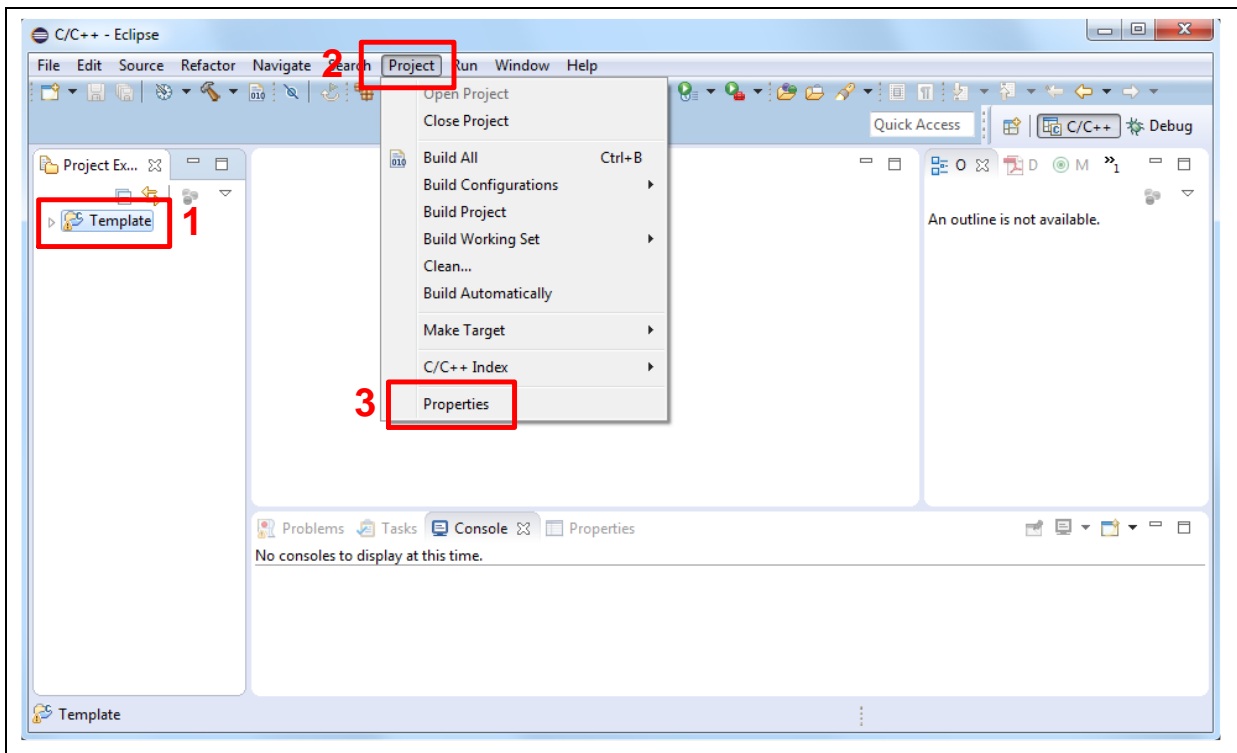
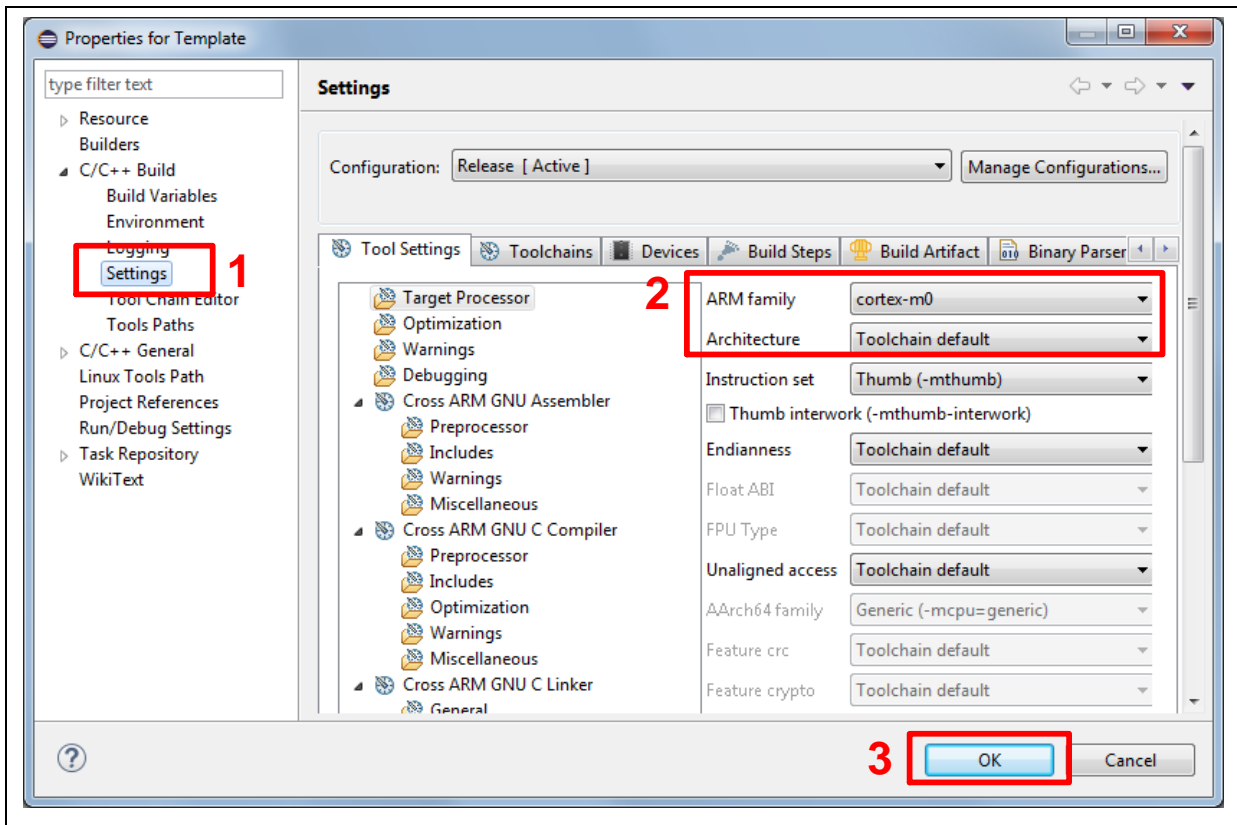

Figure 3-21 Open Project Properties Window
Figure 3-22 Project Properties Settings
3. Click the “Template” project and find the project properties as shown in Figure 3-21. Make sure the settings are the same as settings in Figure 3-22.